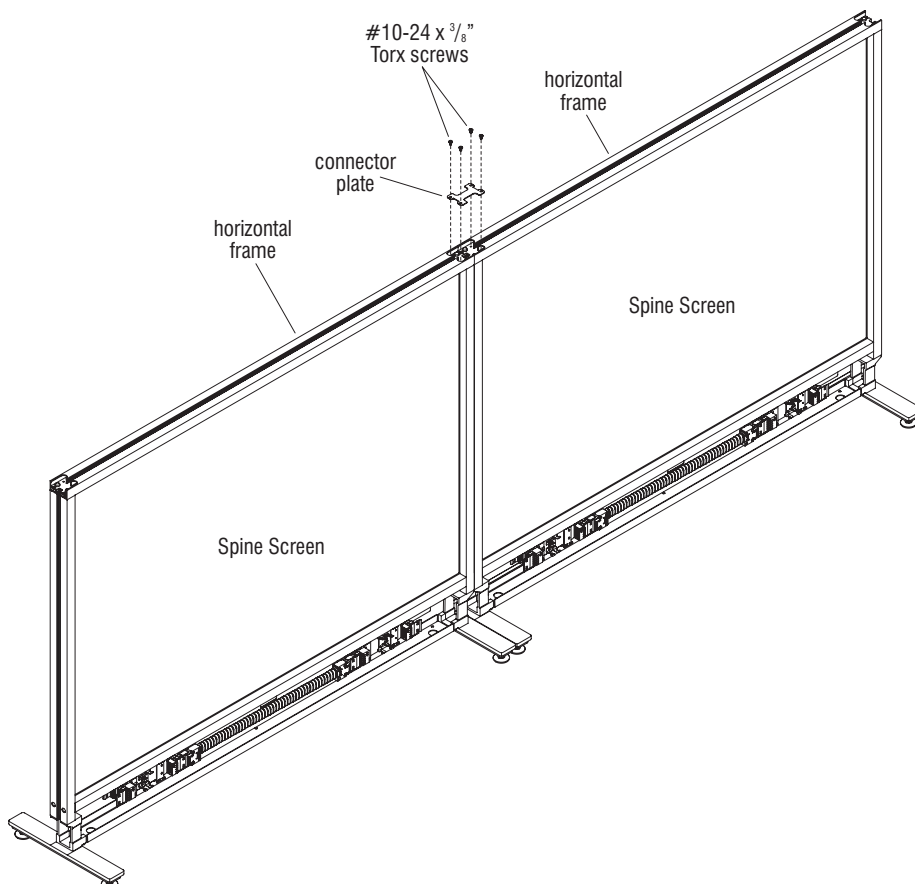

Figure 3
7. At the location where two in-line screens will be joined at the top, place a connector plate over the notch in both horizontal frames. Bridge the frames with the connector plate and align the four mounting holes in the screens with the mounting holes in the connector plate. Secure the plate to the screen's horizontal frame using four #10-24 x 3/8" Torx screws (Figure 3 & Detail E).